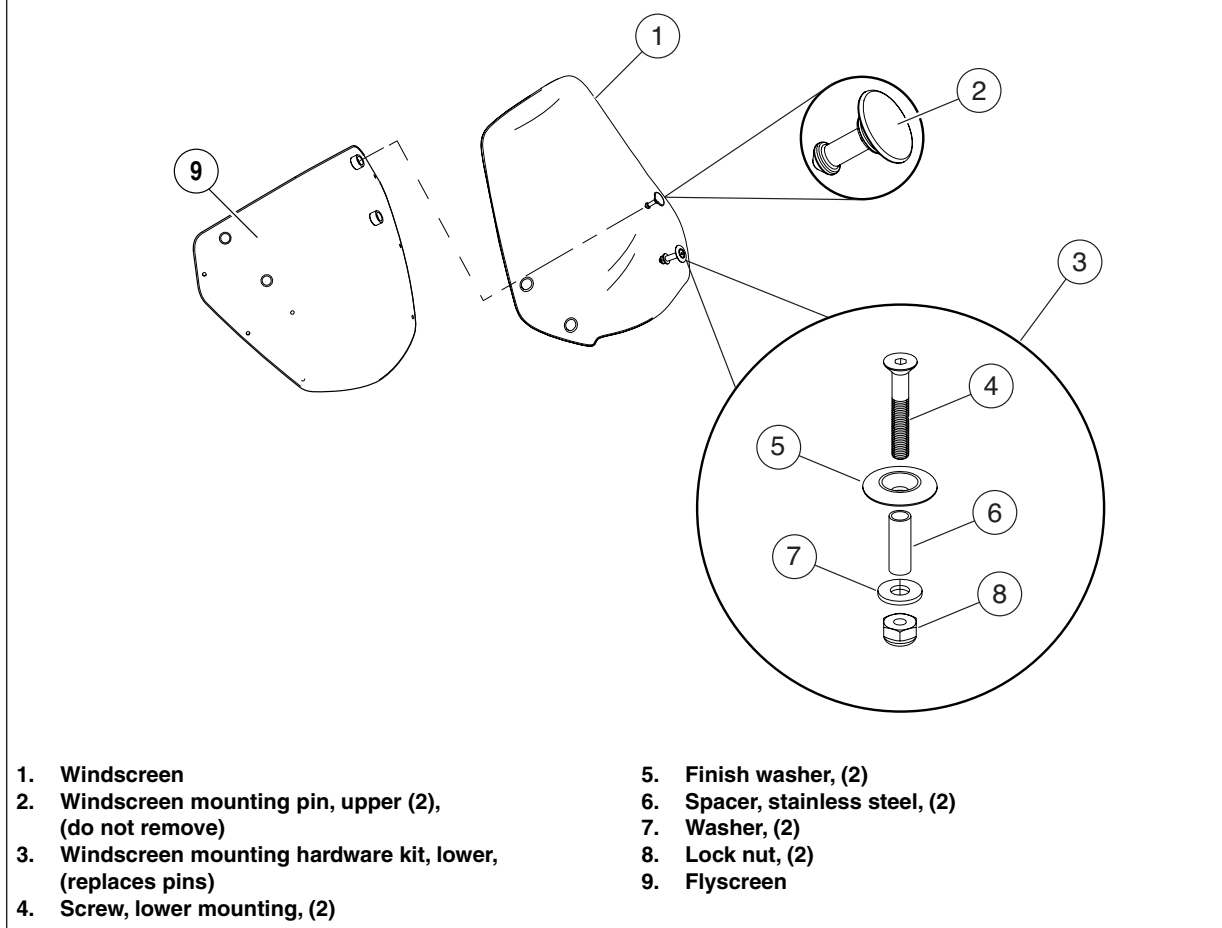

Figure 2. Mounting Hardware for Tall Windscreen
See Figure 2. The windscreen (1) upper mounting locations use mounting pins (2) (Factory installed in windscreen) and the lower two mounting locations use fasteners (3) supplied in the 94485Y recall kit. It will be necessary to remove the flyscreen in order to properly install the new windscreen lower fasteners.
3. See Figure 2. Install the windscreen (1) by pushing the upper mounting pins (2) into place. Ensure upper mounting pins on windscreen locate properly into upper mounting grommets of the flyscreen.
4. Align the lower flyscreen and windscreen mounting holes. For the left and right side lower mounting holes, insert finish washer (5) and spacer (6) onto the screw (4) and place through the windscreen holes and flyscreen grommets.